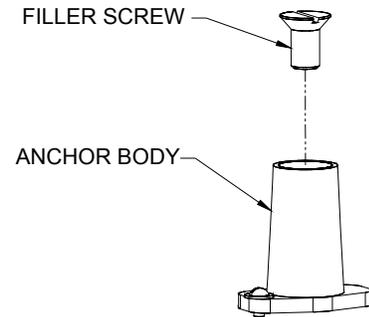
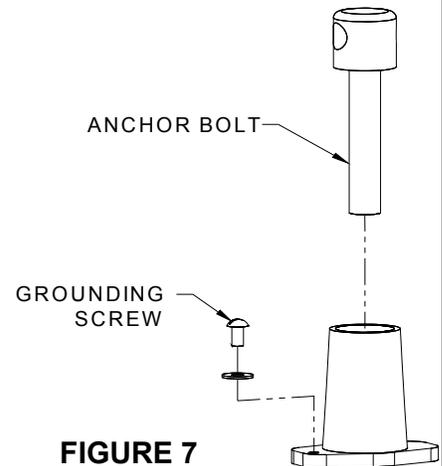

FIGURE 6
FIGURE 7
6. Use hydraulic cement to secure the anchors to the deck. Filler screws (provided) should be used to prevent cement from entering the anchor threads. See **FIGURE 6**. The cavity in the bottom of the anchors should be covered with tape to prevent cement or grout from entering. Anchors should be properly bonded before pouring cement. If electrical bonding is required by the local governmental regulations, it shall be done in accordance with Article No. 680 of the current National Electrical Code or the local code whichever is greater. Two 10-24UNC machine screws are provided for this purpose. See **FIGURE 7**.